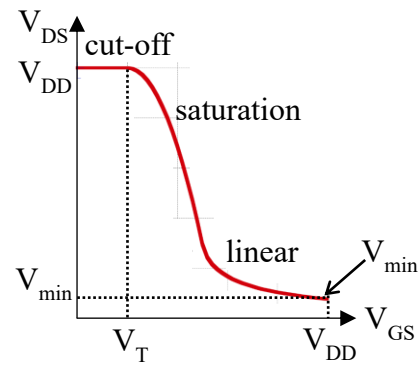

Figure E4: VTC of NMOS Inverter
- For  $R_D = 1 \text{ k}\Omega$ , observe, measure and plot the VTC (similar to that shown in Fig. E4). Also, measure the output voltage ( $V_{min}$ ) for  $V_{GS} = 5 \text{ V}$ , and write it down. From the data, calculate the value of the threshold voltage  $V_T$  and the transconductance parameter  $K_n$ . Compare these results with those obtained before.